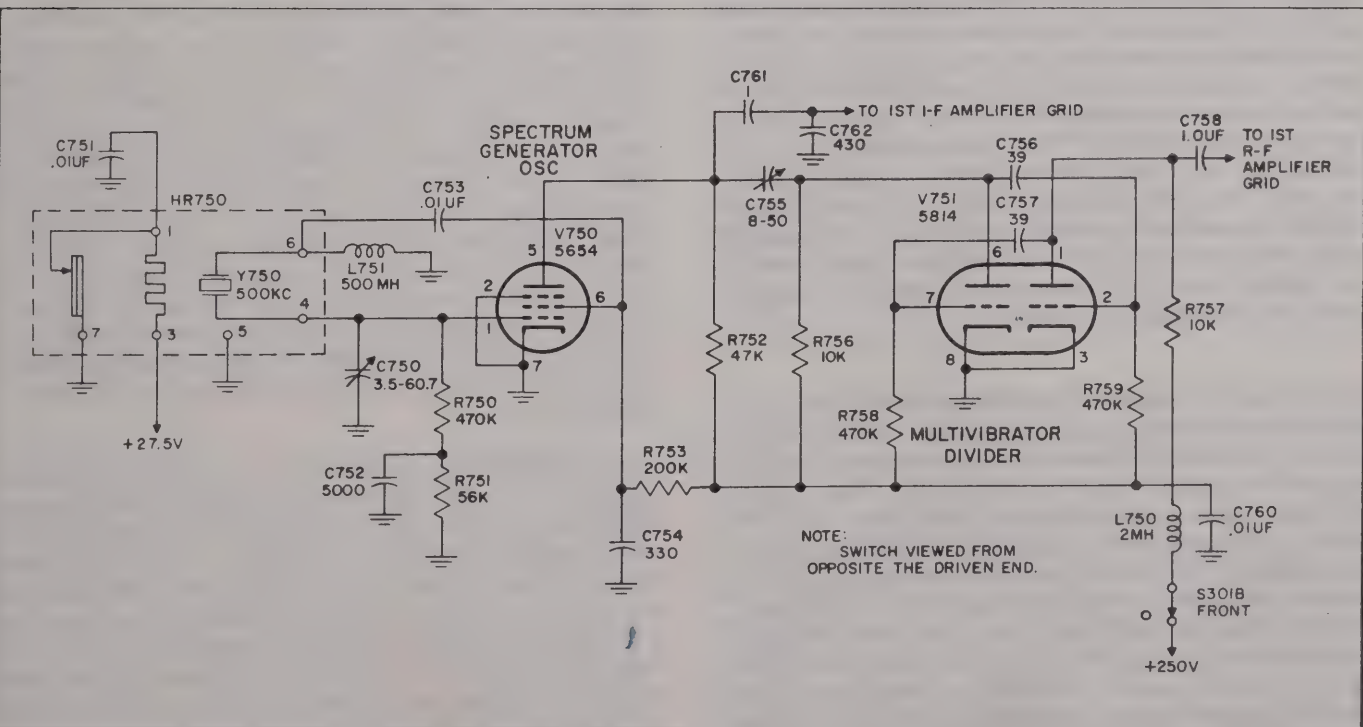

Figure 4-16. Spectrum Generator Oscillator, Simplified Schematic Diagram
**4-27. MULTIVIBRATOR DIVIDER.** (See figure 4-16.) Capacitor C755 couples the output of V750 to the multivibrator plate and grid. The 500-kilocycle drive is made slightly variable through capacitor C755. The multivibrator is a plate-coupled astable version, with the grids returned to the B+ supply to increase slightly the free-running frequency. The free-running frequency is basically determined by the time constants of capacitors C756 and C757 and resistors R759 and R758. For an explanation of the operation, assume that the right half of the tube is cut off. Under these circumstances the plate (pin 1) is at B+ voltage and the grid (pin 2) is highly negative as a result of capacitor C756 discharging through resistor R759; the plate (pin 6) is conducting heavily and the grid (pin 7) is positive. At this time the rate of discharge of capacitor C756 through resistor R756 starts to decrease, allowing the grid (pin 2) voltage to rise slowly. When this voltage passes cutoff in the positive direction, the right-hand triode fires, the plate (pin 1) current begins to rise lowering the plate voltage, and this lowering of plate voltage is transmitted effectively through capacitor C756, thus driving the grid (pin 7) in the negative direction. The plate (pin 6) voltage begins to rise as a result of the increased bias on the grid (pin 7), and this voltage rise is transmitted effectively through capacitor C757 to the grid (pin 2), driving it more in the positive direction and decreasing the plate voltage (pin 1) still more. At this time the plate (pin 1) and the grid (pin 7) are becoming more negative, while the plate (pin 6) and the grid (pin 2) are becoming more positive. This action will continue until the left-hand tube is beyond plate current cutoff. When cutoff is reached, the plate (pin 6) jumps to the B+ voltage and the plate (pin 1) conducts very heavily. The rate of discharge of capacitor C757 through resistor R758 now begins to decrease slowly, allowing the grid (pin 7) to rise in the positive direction, toward plate current cutoff. When cutoff is reached in this direction, the left-hand triode fires, the plate (pin 6) current rises dropping the plate voltage, and this dropping of plate voltage is transmitted effectively through capacitor C756 to the grid (pin 2), driving this grid in the negative direction. As the grid (pin 2) becomes more negative, the plate (pin 1) becomes more positive as a result of the increased bias. The plate (pin 1) will climb slowly to the B+ voltage, reached when its control grid is past cutoff, and the plate (pin 2) will decrease in voltage as a result of its grid becoming positive. The multivibrator now has gone through a complete cycle of operation. If allowed to operate independently, this cycle will be repeated over and over, the frequency depending upon the time constants previously mentioned. The free-running frequency of the multivibrator is slightly below 100 kilocycles, which allows for synchronization at exactly 100 kilocycles.
4-26. SPECTRUM GENERATOR OSCILLATOR. (See figure 4-16.) The function of the spectrum generator oscillator is to provide a 500-kilocycle signal for use in frequency calibration of the receiver. A 5654 tube, V750, is employed in a modified, electron-coupled oscillator. Feedback is accomplished through capacitor C753. Capacitor C750 is nominally set at 32 micromicrofarads for the initial alignment, and may be varied later to set the oscillator frequency to exactly 500 kilocycles. Provision is made for grid voltage metering, accomplished by resistor R751, in series with the grid-loading resistor, R750. Capacitor C752 is the voltmeter bypass. Stability of the